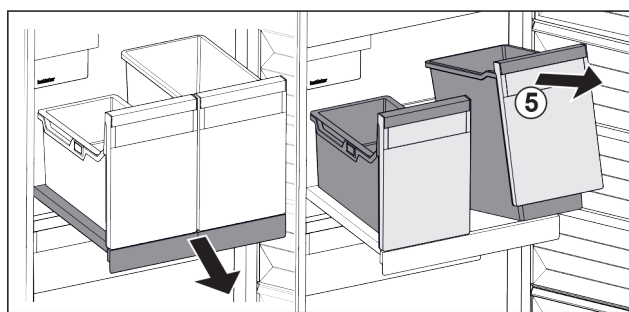

Fig. 80
- Lift the container Fig. 80 (5) at the front.